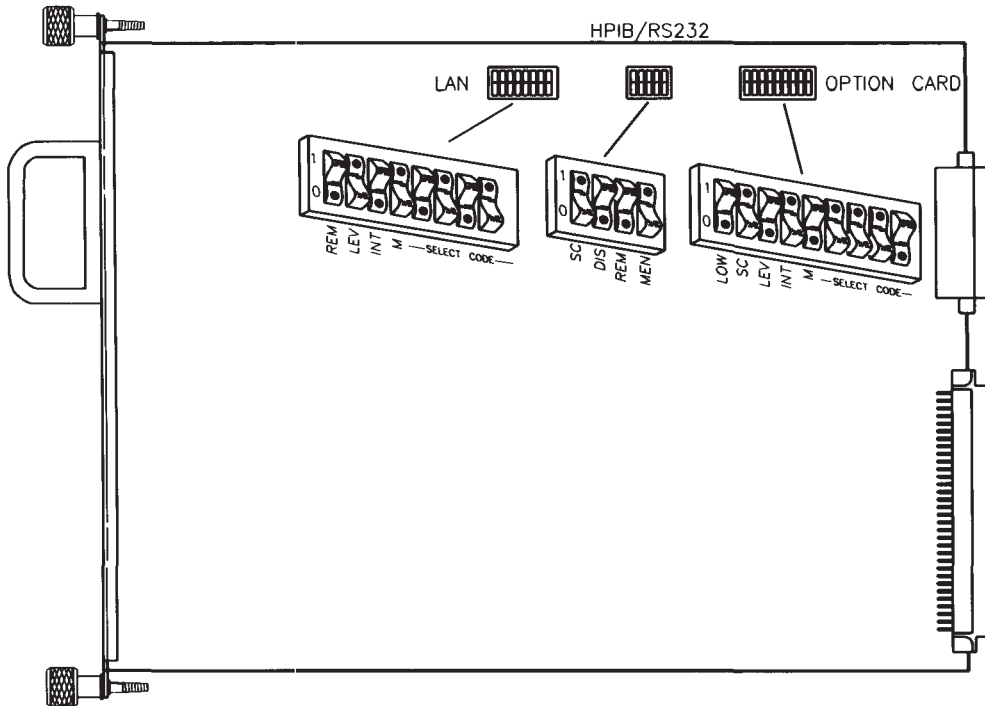

Figure 5-33.
- a. Find the group of four switches labeled “HPIB/RS232”. The switch labeled “SC” in this group is the System Controller switch (see Figure 5-33).
- b. If connecting two computers together via HP-IB, only one of them may be set to system controller. To change this interface to non-system controller, move the System Controller switch to the *0* position (the opposite of that shown in Figure 5-33).
- a. Find the group of four switches labeled “HPIB/RS232”. The switch labeled “DIS” in this group is the RS-232C Disable switch (see Figure 5-33).
- b. To disable the RS-232C Serial interface, move the *DIS* switch to the *1* position (the opposite of that shown in Figure 5-33).
If you later want to enable the RS-232C Serial interface, move the switch back to the *0* position as shown in Figure 5-33.
- a. Find the group of four switches labeled “HPIB/RS232”. The switch labeled “REM” in this group is the Remote Terminal Enable switch (see Figure 5-33).
- If you are connecting a terminal to this interface and want this terminal to be the system console, set this switch to *1*, which is the *opposite* of that shown in Figure 5-33.
- If you are connecting a terminal to this interface but *do not* want this terminal to be the system console, or if you are connecting any other device, set this switch to *0* as shown in Figure 5-33.
- a. Find the group of four switches labeled “HPIB/RS232”. The switch labeled “MEN” in this group is the Modem Lines Enable switch (see Figure 5-33).
- If you intend to connect an HP 2601A printer, an HP 2686A *LaserJet* printer, an HP 92205A/C Hayes *SmartModem*, or a uucp, set this switch to *1* as shown in Figure 5-33.
- If you intend to connect a terminal or the HP 39800/01A bar code reader, set this switch to *0*, which is the *opposite* of that shown in Figure 5-33.
- Find the group of eight switches labeled “LAN”. The five switches labeled “M” (for Most-significant bit) and “SELECT CODE” in this group are the LAN Select Code switches (see Figure 5-33).
- Find the group of eight switches labeled “LAN”. The two switches labeled “INT” and “LEV” in this group are the LAN Interrupt Level switches (see Figure 5-33).
- a. Find the group of nine switches labeled “OPTION CARD”. The five switches labeled “M” (for Most-significant bit) and “SELECT CODE” in this group are the Select Code switches (see Figure 5-33).
- a. Find the group of nine switches labeled “OPTION CARD”. The switch labeled “SC” in this group is the System Controller switch (see Figure 5-33).
- b. If connecting two computers, only one of them may be set to system controller. To change this interface to non-system controller, change the System Controller switch to *0* (the opposite of that shown in Figure 5-33).
SKIP? The Low/High Speed switch is preset to *0*, “high speed,” as shown in Figure 5-33. This setting is appropriate for most applications. If you want to change this setting, continue with step 12; otherwise skip to step 13.
- a. Find the set of nine switches labeled “OPTION CARD”. The switch labeled “LOW” in this group is the Low/High Speed switch (see Figure 5-33).
- To set this switch to low speed, set the “LOW” switch to *1*, which is opposite of that shown in Figure 5-33.
- To set this switch to high speed, set the “LOW” switch to *0* as shown in Figure 5-33.